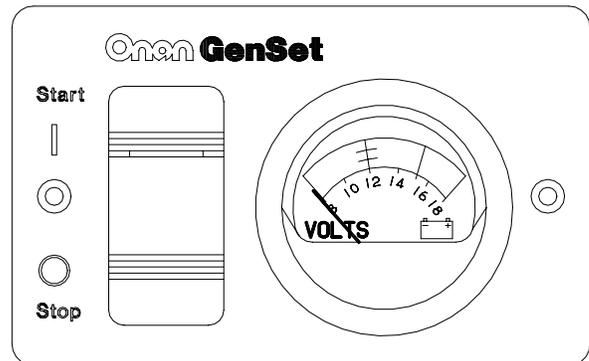

FIGURE 8. REMOTE START/STOP SWITCH AND DC VOLTMETER
- Remote start/stop switch with indicator lamp and DC voltmeter (Figure 8).